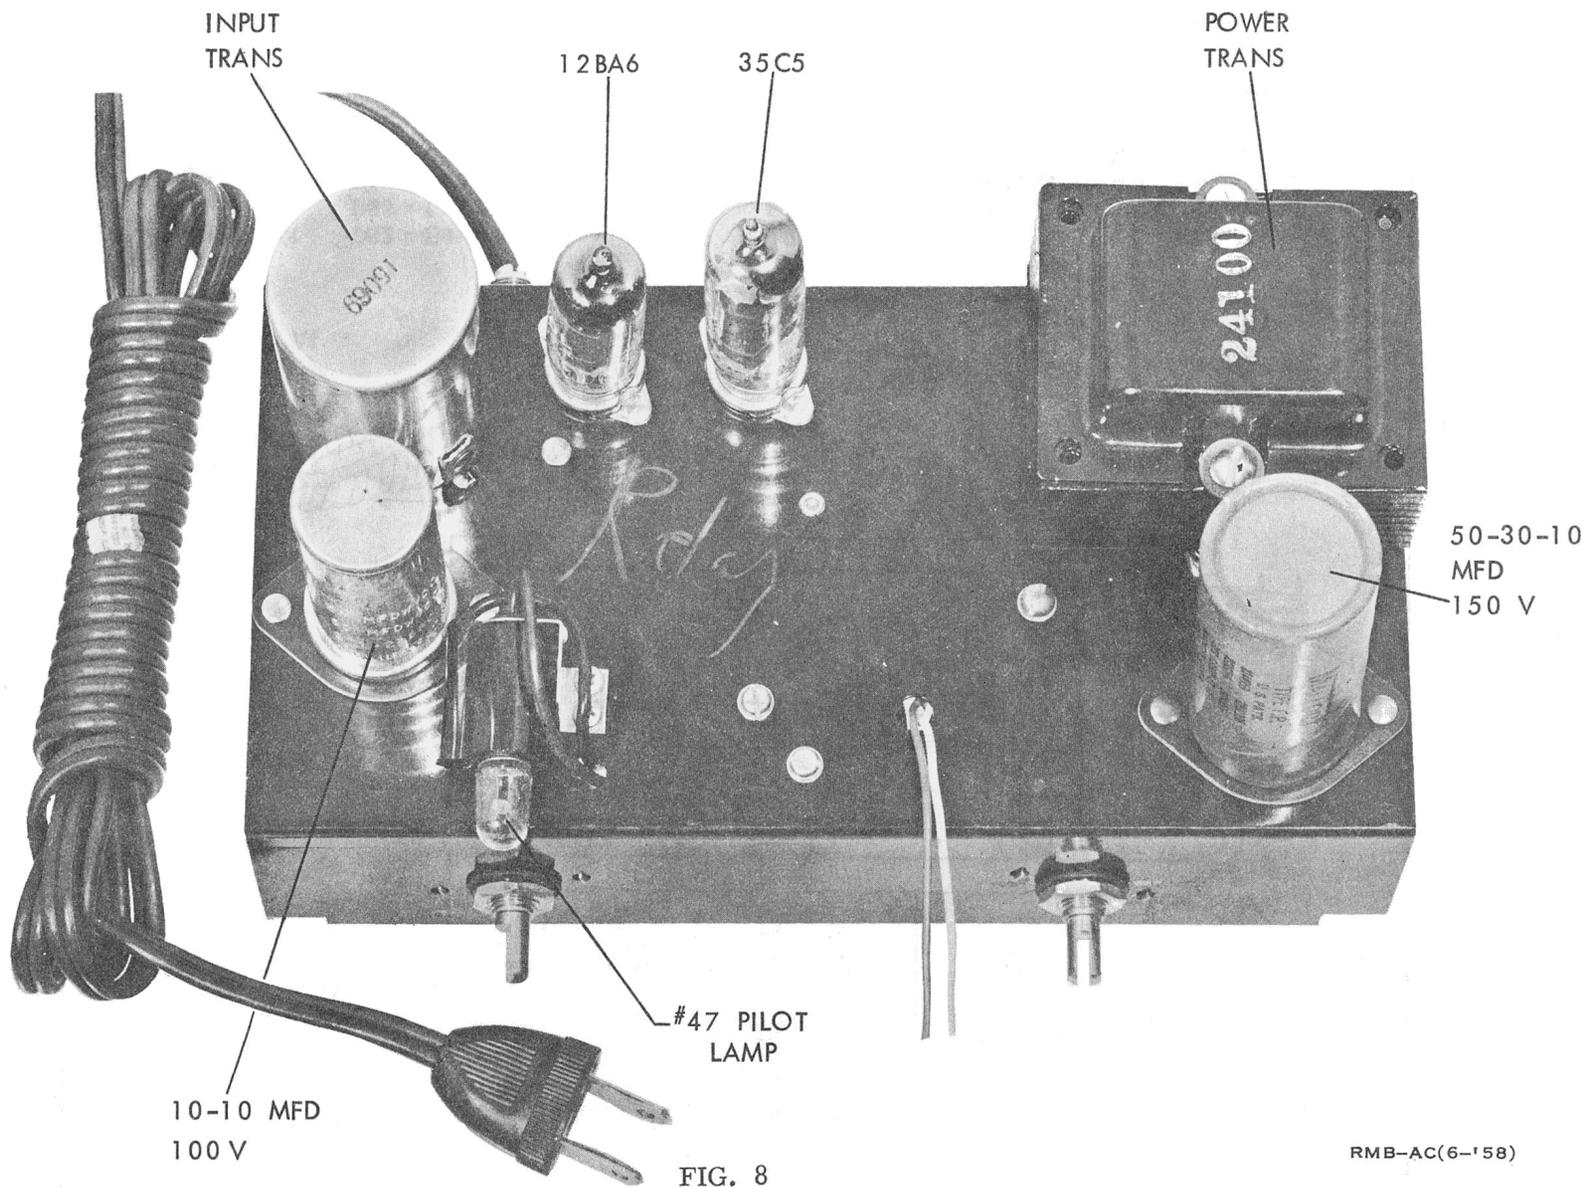

FIG. 8
- Figure 8 RM-B Amplifier - Location of Components (Top View)